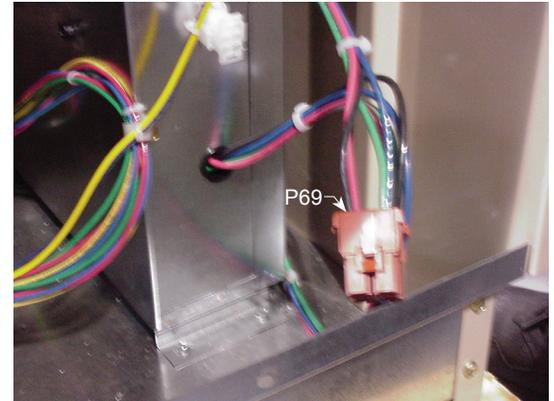

FIGURE 7
4. Locate the connector P69 wiring harness in the PEB/PEV. Route harness into the return air of the rooftop unit near J69. Connect after power exhaust assembly is attached to rooftop unit. **See Figure 7. Refer to wiring diagrams on Pages 8 thru 9.**